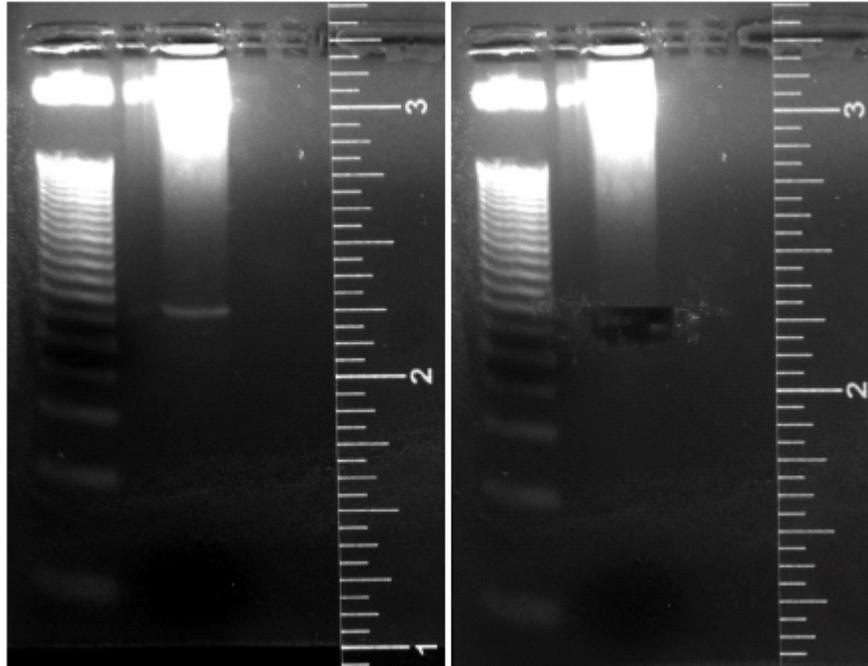

Figure 15 Excision of 154 to 156 bp library band.
7. Excise the band between 154 to 156 bp using a clean razor blade (see Figure 15 on page 108).